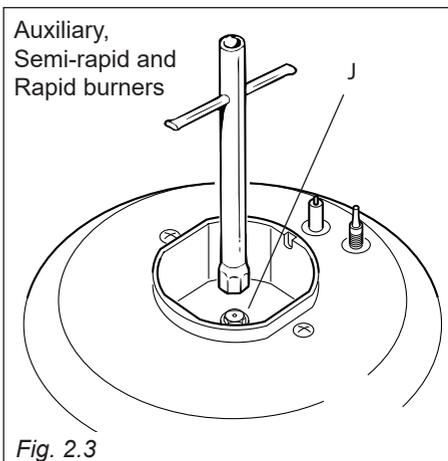

Fig. 2.3
- Using a wrench, substitute the nozzle injectors "J" (figs. 2.3, 2.4) with those most suitable for the kind of gas for which it is to be used.